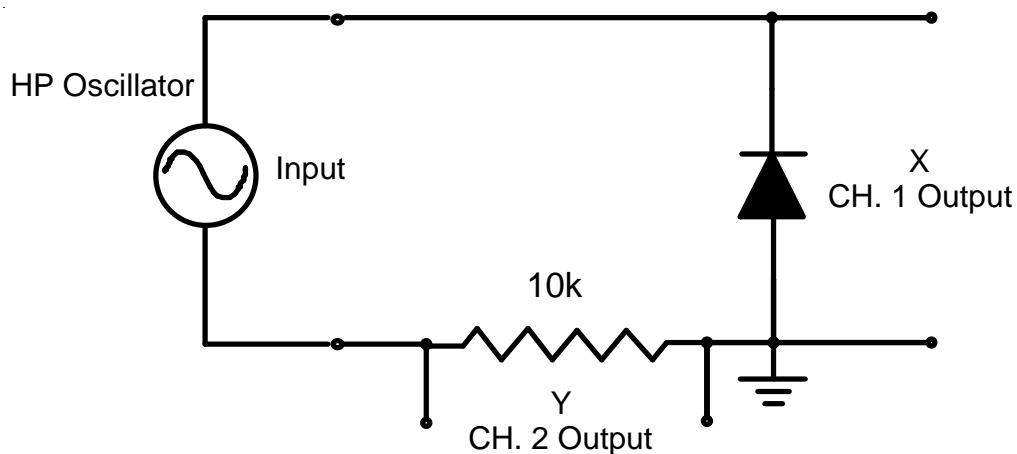

Fig. 1: Circuit for observing the diode I-V curve.
2. Proceed to construct the circuit shown in Fig. 1. Make sure that the grounding strap on the HP 200CD Oscillator is disengaged so that its two maroon binding posts “float” relative to ground. Use the banana connectors on your chassis to